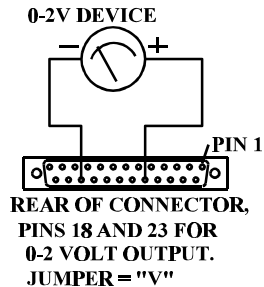

Figure 1
- 0-2 volt devices connect as shown in Figure 1. If the instrument includes an option board, be sure its analog jumper (SW101) is set to the “V” position.